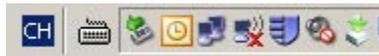

Figure 10 USB device Sign
1. Configure TFTP client settings as Figure 10